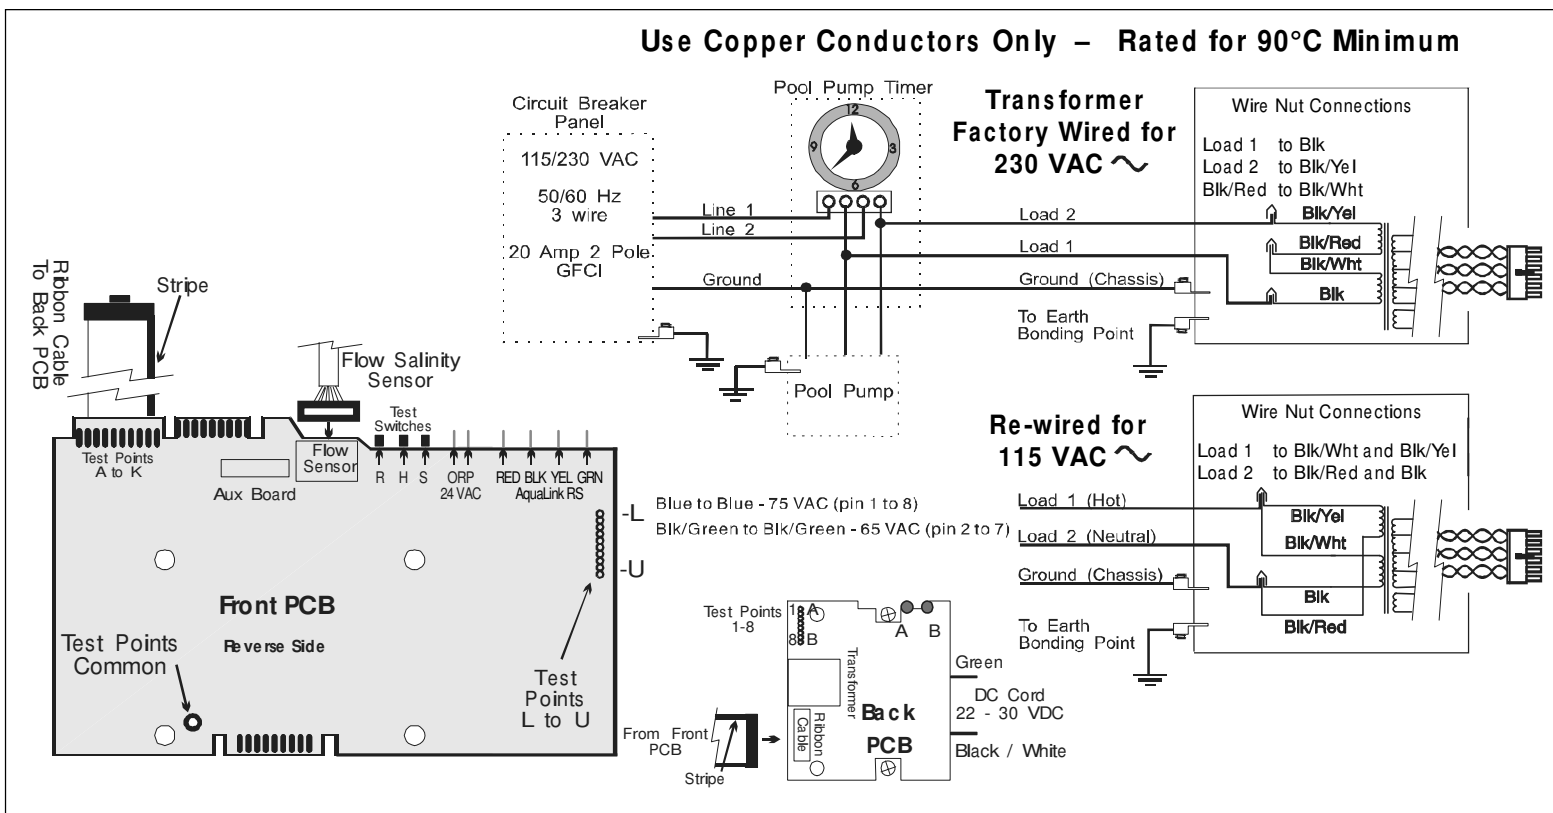

Figure 2. APURE700 and APURE1400
Factory wired for 230 VAC service. If available electrical service is 115 VAC, the power supply wiring must be changed to operate on 115 VAC as shown in the wiring diagram below. (Figure 2.)
6. Check source voltage. (All units are factory wired for 230 VAC). ***In order to use on 115 VAC, the internal factory wiring of the control center must be changed. (See wiring diagram page 6 Figure 2).***
7. Use #12/3 insulated wire and conduit. Wire control center transformer to pool pump power source. The control center should be connected to the pump motor switch or automatic timer (Pool Pump Timer) as shown in the diagram on page 6 Figure 2. ***The flow portion of the Flow/Temp/Salinity Sensor is a backup device only.*** Attach the third wire (**Ground**) from the electrical panel to the ground point inside the Control Center. ***Earth bonding in Section 3.4 must also be accomplished to insure personal safety and safety of equipment.***
9. Feed the connector end of the Flow/Temp/Salinity Sensor cable through the DC cord strain relief fitting located in the bottom of the control center chassis backplate. **Be certain the connector is clean and dry,** then plug the cable into the connector on the control center Printed Circuit Board as shown on page 6 Figure 2. **(Do not pull Flow/Temp/Salinity Sensor cable too tight, allow a little slack).**
11. Connect the DC cord to the Control Center. Feed the DC cord through the same strain relief fitting as the Flow/Temp/Salinity Sensor. Plug the DC cord into the two push-on connectors located on the control center Printed Circuit Board as shown in Figure 2 on page 6.
14. Plug the ribbon cable attached to the front cover PC board into Printed Circuit Board mounted on the backplate (See page 6 Figure 2). Now reattach the control center front cover to the backplate.